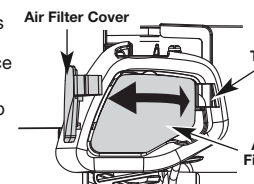

Fig. 25
1. Open the air filter cover by pressing the lock tab in and pulling out on the air filter cover (Fig. 25).
2. Remove the air filter (Fig. 25).
6. Replace the air filter into the base plate (Fig. 25).
7. Reinstall the air filter cover. Position the two small tabs on the air filter cover into the two slots in the base plate and press the air filter cover down, making sure to align the lock tab with the lock tab slot, until it snaps into place (Fig. 25).